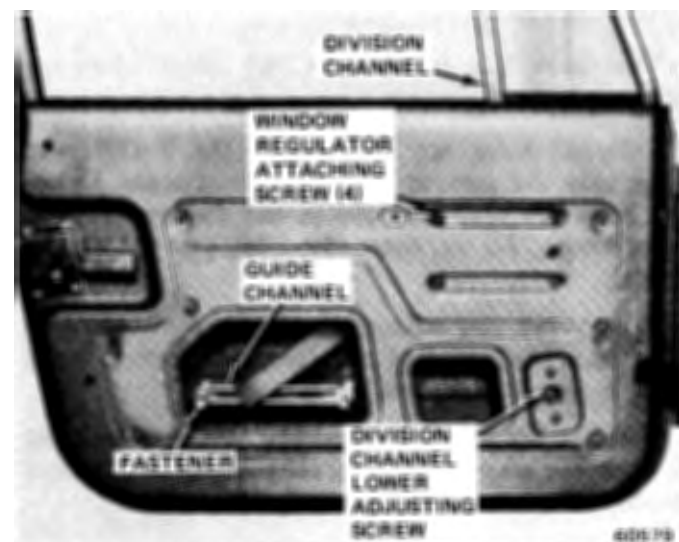

Fig. 15-1 Door Glass Replacement—CJ
(1) Remove door trim panel and water shield.
(2) Loosen division channel lower adjusting screw and move division channel fore or aft to obtain the desired door glass operation (fig. 15-1).